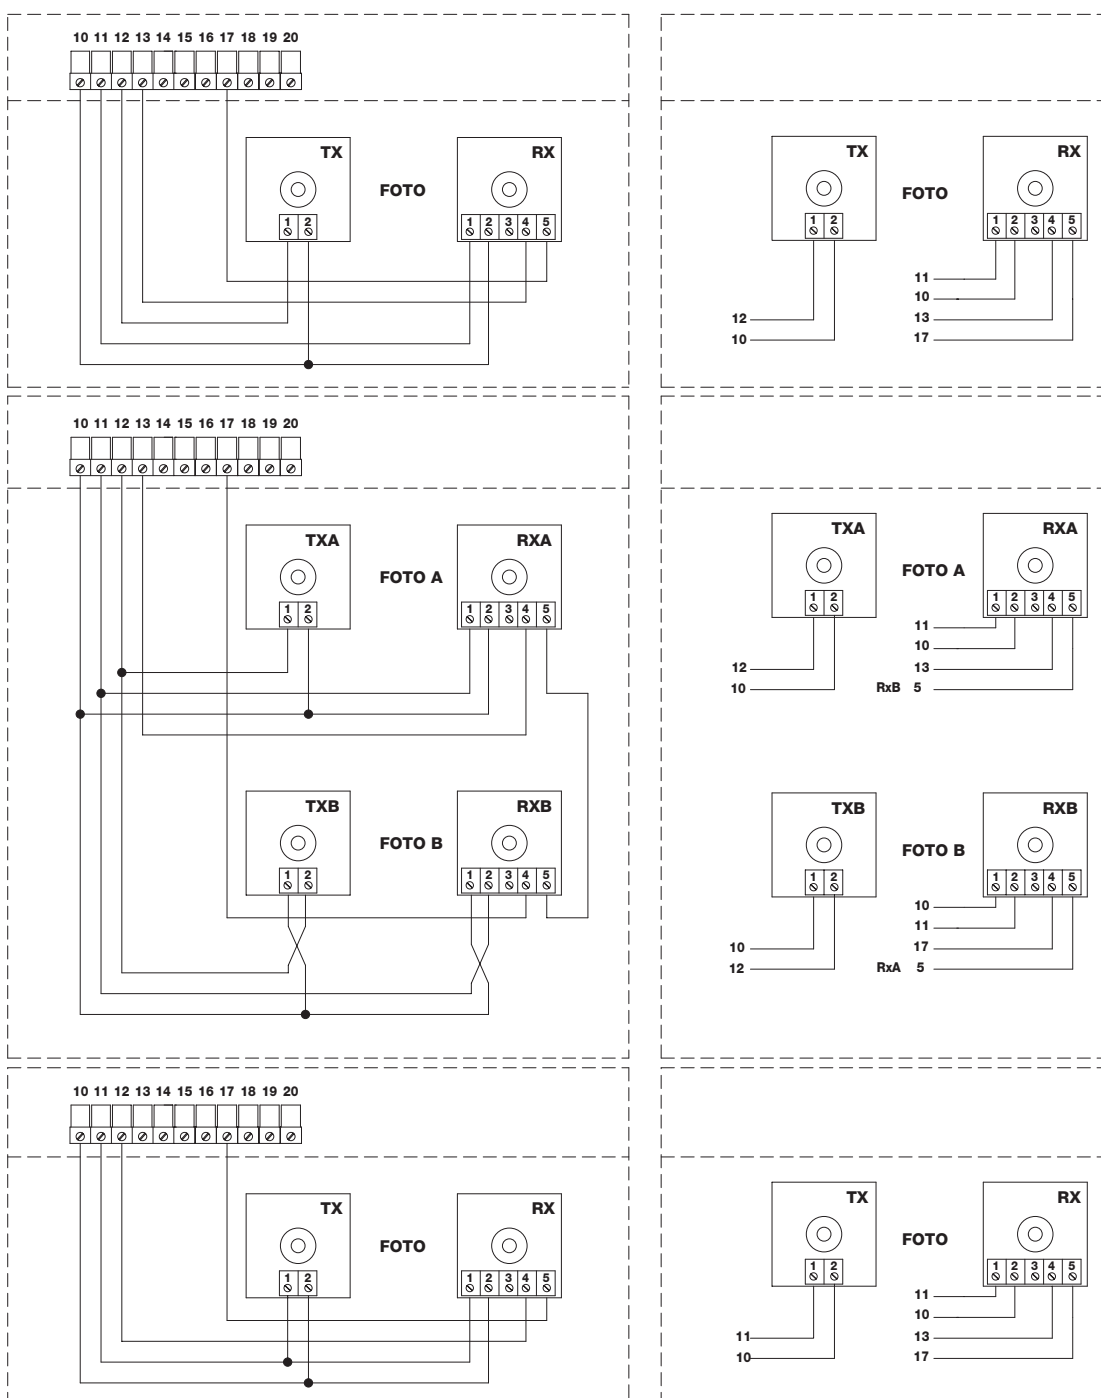

fig. 4a
- Connect the photocells as shown in **fig. 4a** (when using a single pair of photocells) or in **fig. 4b** (when using two pairs of photocells). The power supply to the photocell transmitters is not drawn directly from the service output but from the "Phototest" output between terminals 10-12. The maximum current available from the "Phototest" output is 100mA.